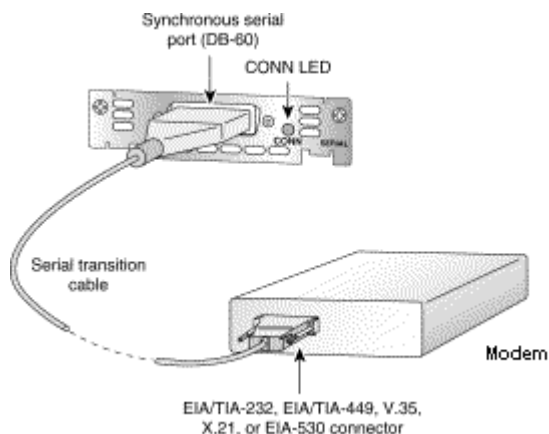

Figure 4
Step 2 Connect the other end of the cable to the asynchronous modem that you provide (Figure 4)